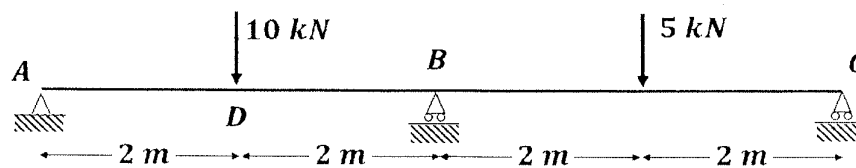

Figure Q2b
- (ii) Using the **Theorem of Three Moments**, analyse the continuous beam shown in **Figure Q2b** and draw the bending moment diagram. (EI is constant) [10 Marks]